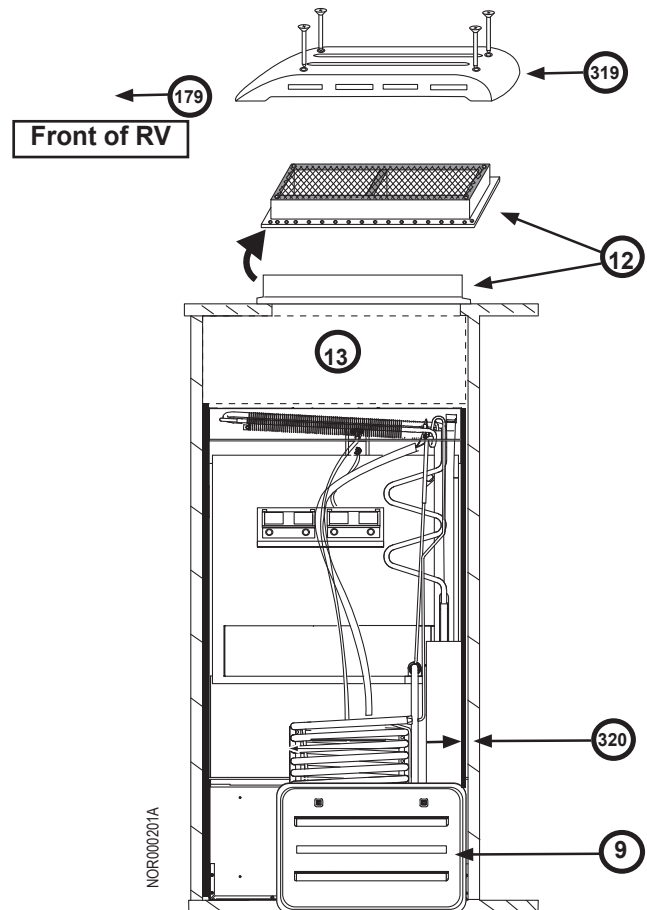

Fig. 6 - Typical roof exhaust venting
- Side baffles [320] (See Fig. 6)
Ventilation and combustion air flow through the lower intake vent [9] (See Fig. 6), which also serves as the service access or door. The lower intake vent needs to be kept clear of obstructions that may restrict the flow of fresh air into the enclosure.
The roof cap [319] fits over exhaust vent. The sloped end always faces the front of the RV [179] (See Fig. 6). It is held in place by four 2-1/2" long Phillips head screws.